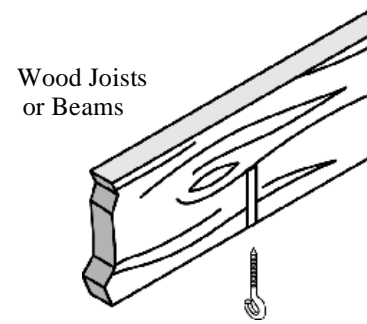

Figure 4. Anchoring in Wood
- **Wood Joists or Beams.** Drill four 5/32-in. dia. holes, at least 2 in. deep (4-mm dia. holes, 51 mm deep). Fully insert eye lag screws (see Figure 4).